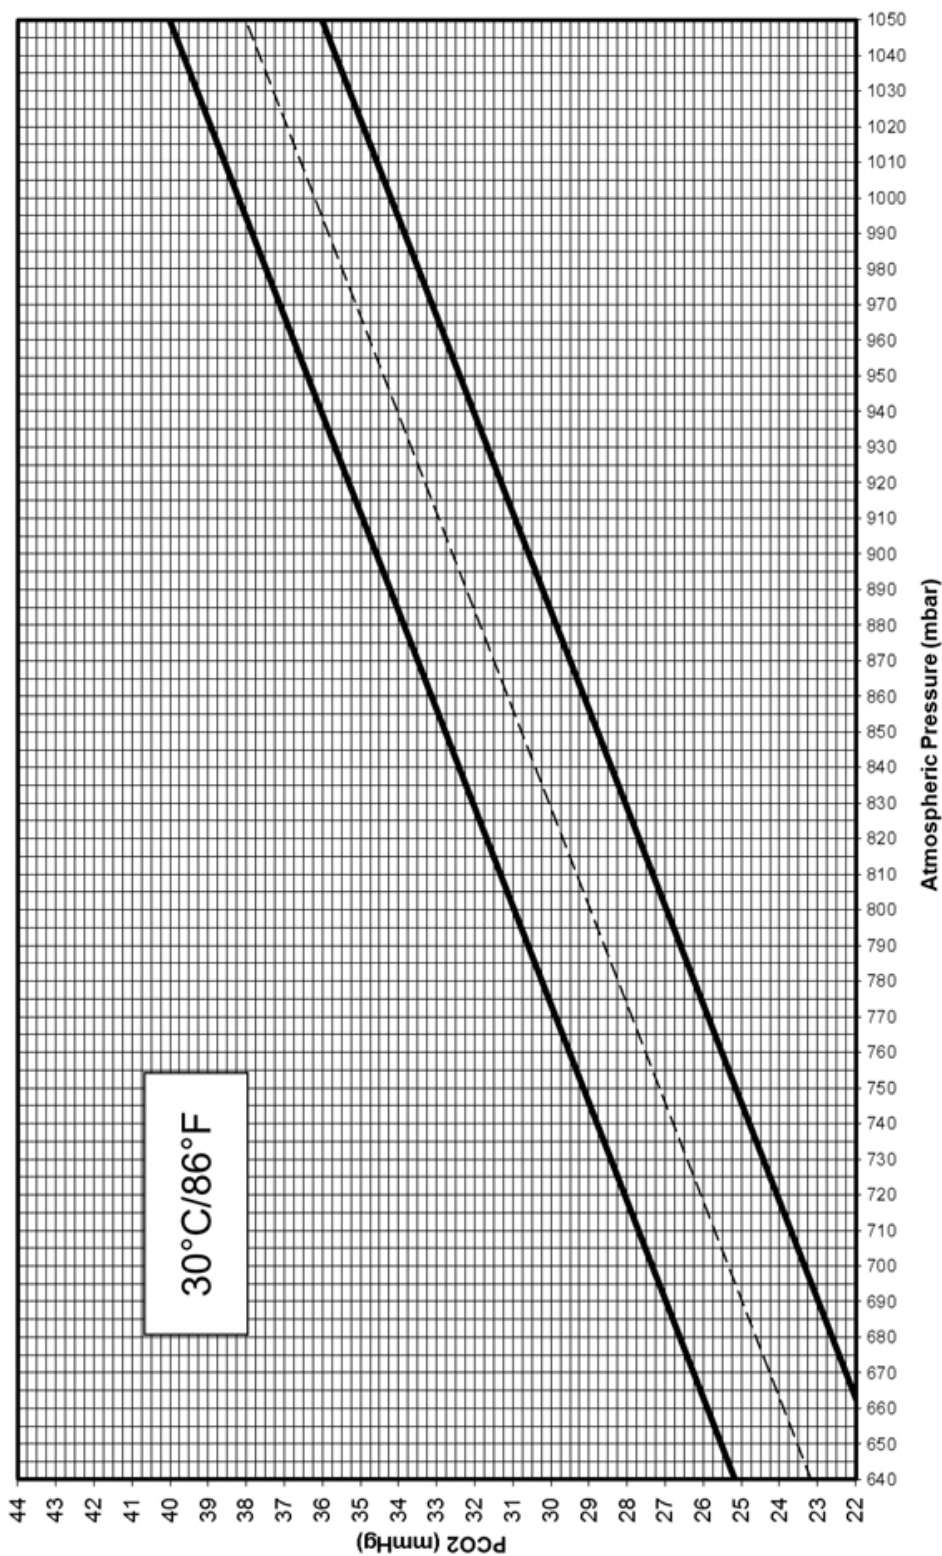

Fig. 192 Acceptable Range for PCO2 at Atmospheric Pressure (27.5 to 32.5 °C)
- Ambient temperature 30 °C (27.5 to 32.5 °C): Fig 192